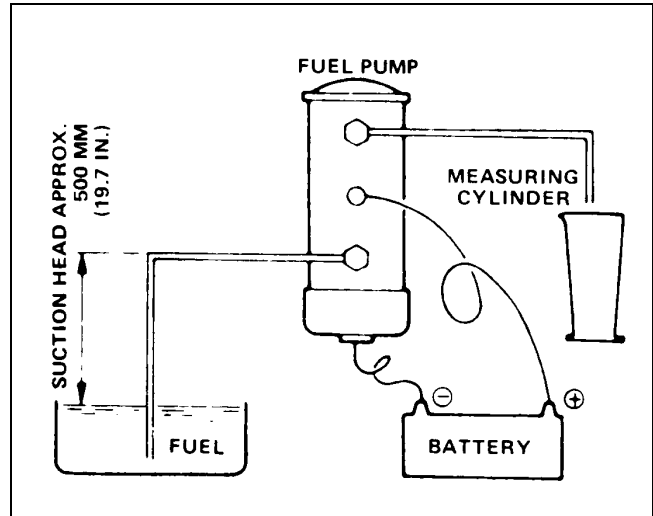

Figure 22
2. If no pumping action occurs when the ignition switch is turned on, connect a 12 volt DC battery directly to the pump (Fig. 22). If the pump now operates, check for an electrical failure of the pump circuit, eg. fuses, connections, wires, etc.
3. The delivery of the fuel pump may be checked by disconnecting the fuel lines from the water separator and fuel filter and routing them to a can of filtered diesel fuel and a drain pan (Fig. 22). Activate the pump and measure the amount of fuel pumped in during a 15 second time interval. The standard pump rate is approximately 8 ounces (225 cc) in 15 seconds.
2. Connect a 12 volt battery so the positive (+) battery terminal is connected to terminals A (hold) and B (pull) (Fig. 22). Connect the negative (–) battery terminal to solenoid terminal C (common). The plunger should retract to the dimension shown.